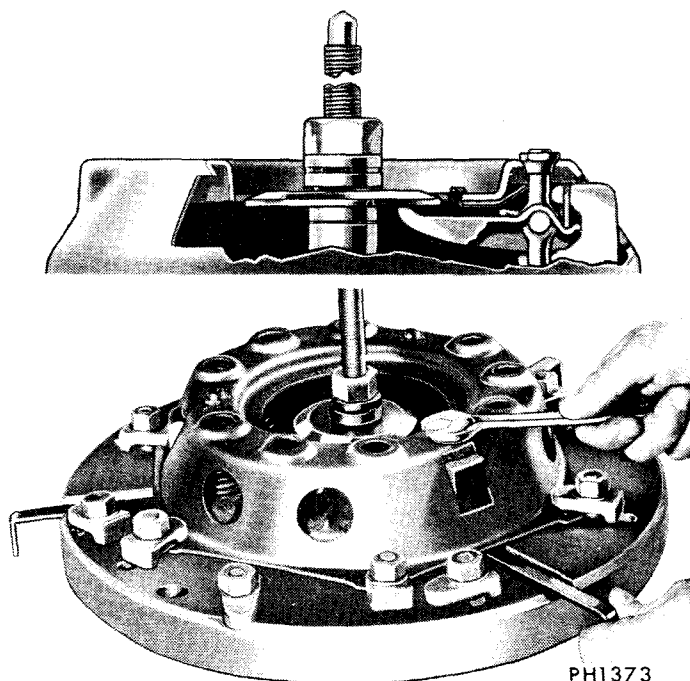

Fig. 6—Release Levers Adjustments
(1) Mount clutch cover and pressure plate assembly on fixture. On clutches having four release levers, two of release levers should be positioned directly over two feeler gauges in base of fixture (Fig. 6).
(2) Place proper spacer on center screw of fixture. Use spacer 19 and 21 for 11 inch clutch or spacer 20 and 43 for 13 inch clutch.
(3) Install compression plate on center screw making sure that it rests directly against clutch release fingers. Plate can be reversed for proper clearance, depending on the size of clutch.
(4) Install self-aligning washer, plain thrust washer and compression nut. Tighten compression nut until compression plate comes into contact with spacers on center screw.
(5) On 11 inch clutches install clutch cover clamps over bolt holes and tighten securely.
(6) On clutches with four release levers, adjust two levers that have been centered over two of feeler gauges until both have same slight drag or feel while gauge is pushed in and out.
(7) Tighten clutch release lever eyebolt nut to decrease drag and loosen nut to increase drag. After proper drag has been obtained, clutch assembly must be rotated 1/2 turn (or two levers not adjusted, centered over two of the feeler gauges in a like manner